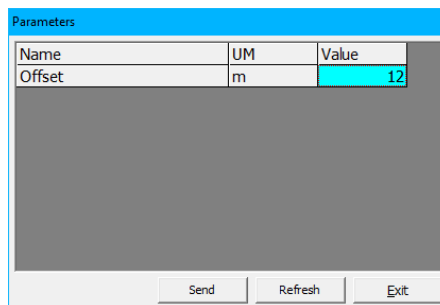

Figure 13.15: modifying a datalogger parameter.
- Insert a new value and press *Enter*. After that, the box value will be highlighted in light blue (Figure 13.15).